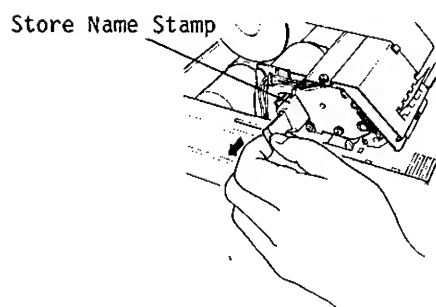

Fig. 4
2. Withdraw the store name stamp with the protruding part clasped between your fingers (Fig. 4).